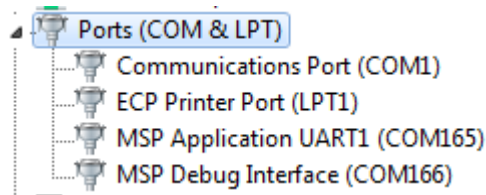

Figure 1. eZ-FET Windows Enumeration
- Check the installed tool drivers by using the Windows Device Manager. eZ-FET tools enumerate as CDC "MSP Debug Interface" and CDC "MSP Application UART1" devices (see Figure 1).